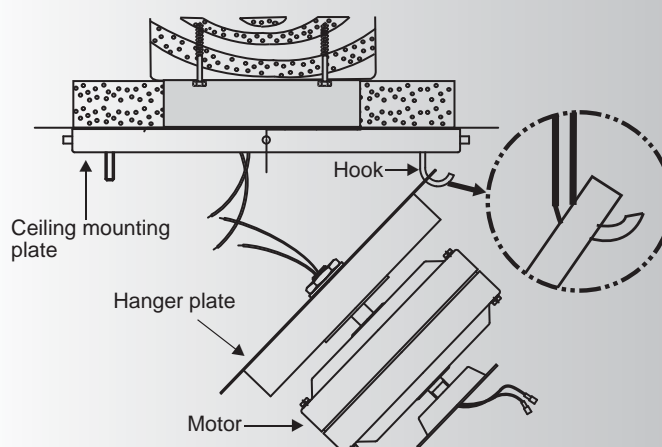

Fig. 5
Step 2. Carefully lift the fan motor/hanger plate assembly up to the ceiling mounting plate and hang the assembly on the hook attached to one end of the ceiling mounting plate. See figure 5.